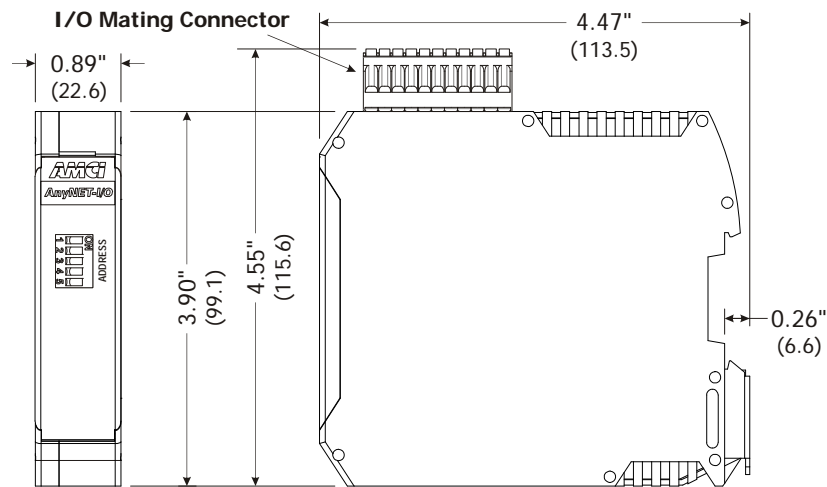

Figure T1.1 AnyNET-I/O Outline
Figure T1.1 shows the dimensions of an IANG1(E) module.